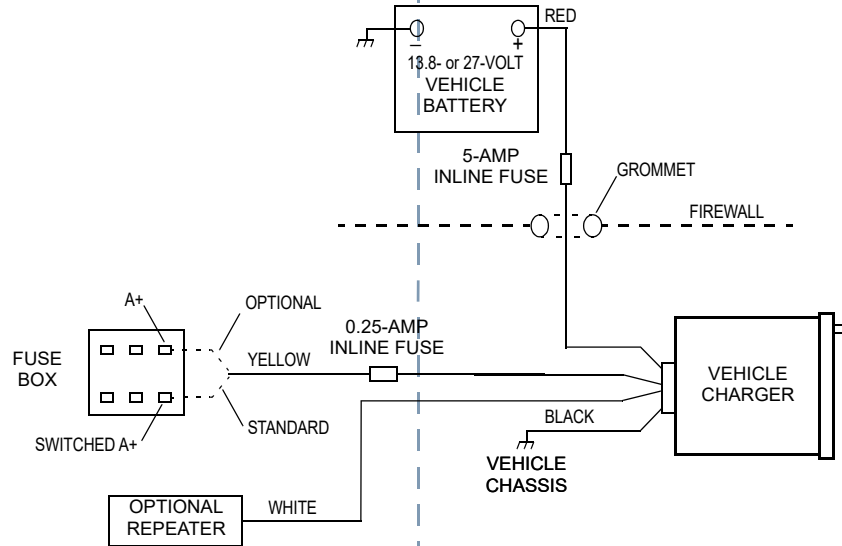

Figure 2 Cable Console
- Referring to Table 1 on page 1 and Figure 2, connect the red (A+) wire (with the inline fuse) of the supplied cable to either an unswitched terminal on the fuse box of the vehicle or directly to the positive (+) terminal of the battery of the vehicle. Always position the fuse as close to the voltage source as possible.